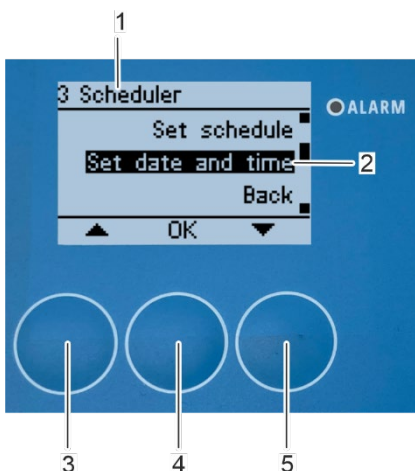

Fig. 156: Open "Set date and time" submenu
8. Select the "Set date and time" submenu (Fig. 156/2) in "3 Scheduler" submenu (Fig. 156/1) with the arrow keys *[up]* (Fig. 156/3) and *[down]* (Fig. 156/5).
9. Confirm the selection with *[OK]* (Fig. 156/4).